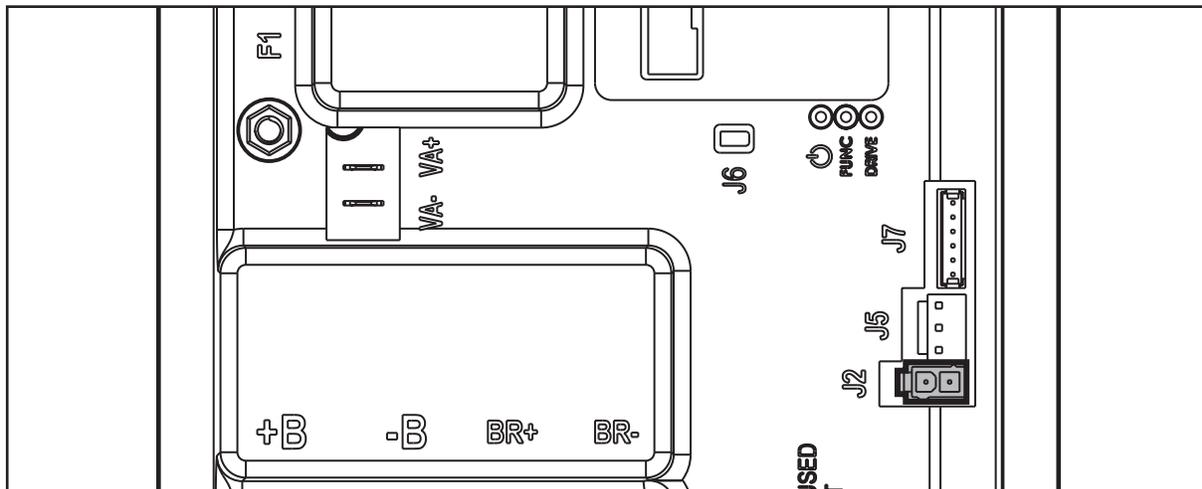

Figure 23
**(Figure 23) J2: MOLEX MINIFIT type, 2-ways vertical**